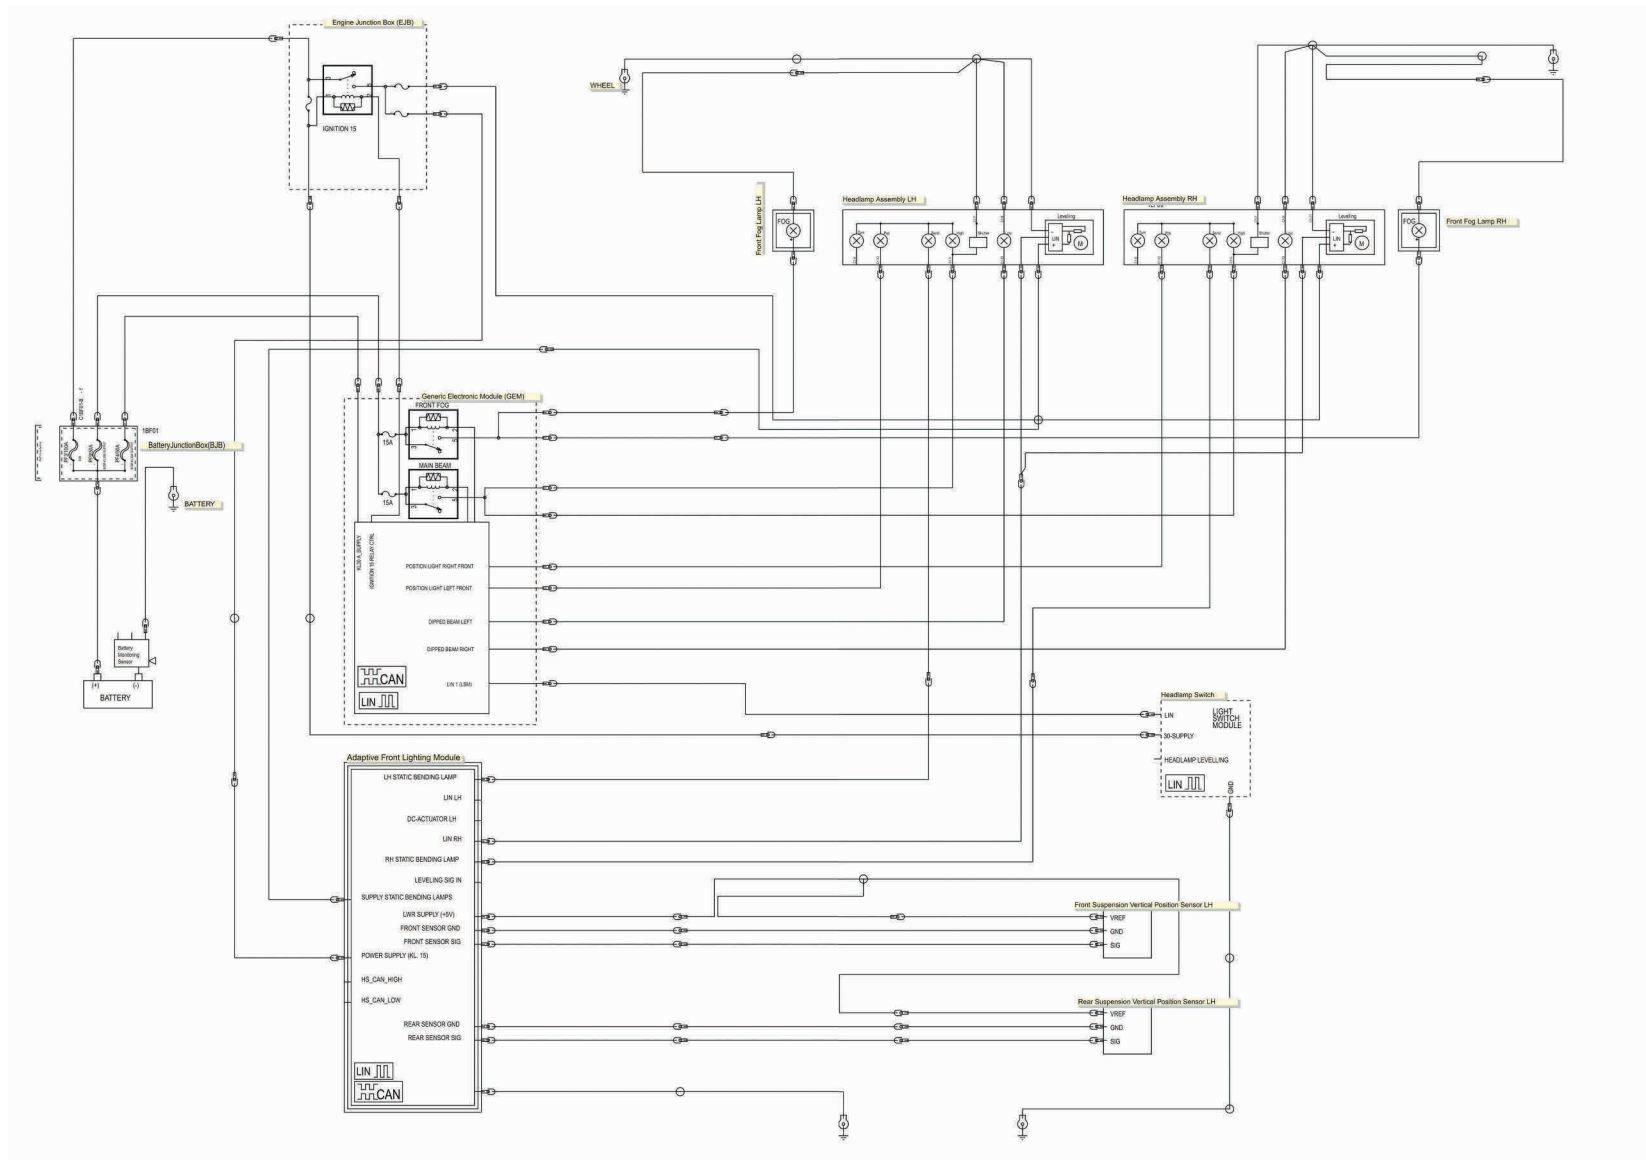

Figure 8.49 Lighting circuit using a general electronic module.
Figure 8.49 is from a Ford vehicle with adaptive front lighting. The light switch in this case has a supply (30)